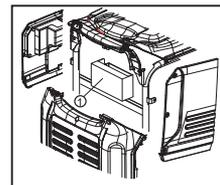

Figure 2
6. Once half year, recharge the lithium battery ① (Figure 2) (remove side covers before recharge). If a battery is allowed to drop below approximately 10.5 volts, it may not be recoverable by recharging, and you might have to replace the battery.